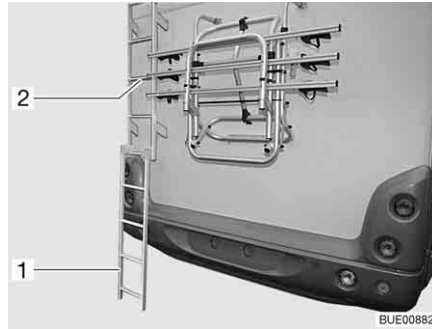

Fig. 1 Rear ladder
- Hook the lower part of the ladder (Fig. 1,1) in the part of the ladder (Fig. 1,2) which is fastened to the rear, and place it on the ground.